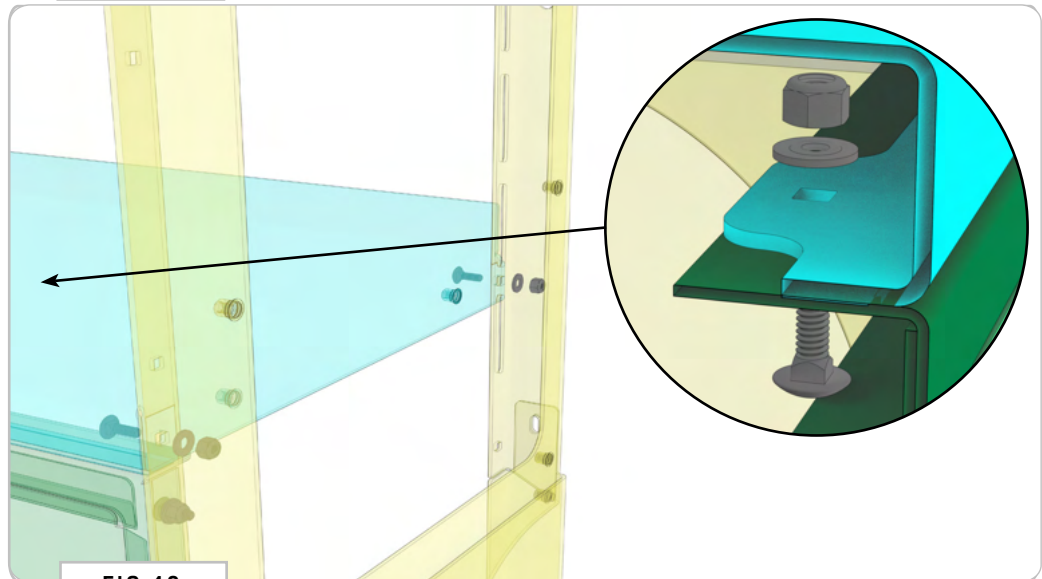

FIG 48
**3.7 Install Cabinet Shelf:** Attach the **Cabinet Shelf** to the **Left and Right Cabinet Ends** using **(4) 1/4-20 x 0.75 Square Neck Carriage Bolts, Flat Washers and Nylon Locknuts**. There's a final mounting location in the middle of the unit that will take **(1) 1/4-20 x 0.75 Square Neck Carriage Bolt, Flat Washer and Nylon Locknut** to finish out this step (FIG 48).